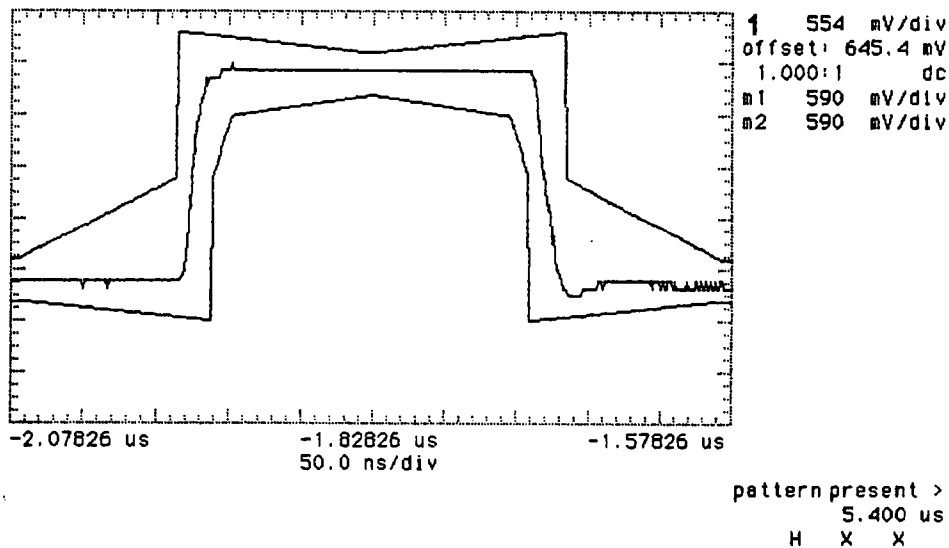

Figure 3-27. 2 Mb/s Isolated Positive Pulse
16. Press **SHIFT** **AUTOSCALE** on the oscilloscope to automatically align the pulse to the mask. Verify that the pulse falls within the mask as shown in Figure 3-27.